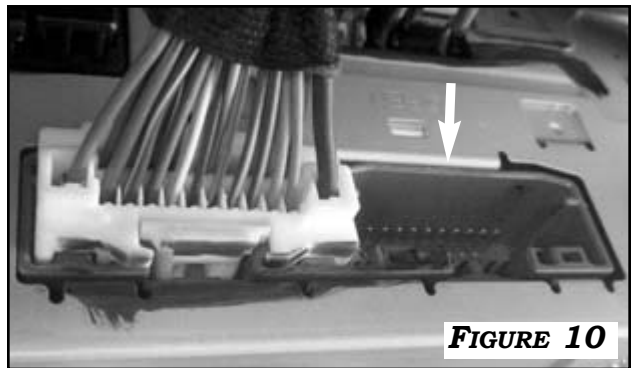

FIGURE 10
3. 09-12 VEHICLES: CONNECT INTERFACE ADAPTER HARNESS INTO GRAY 22-PIN CONNECTOR HOUSING BEHIND RADIO. **FIGURE 10**